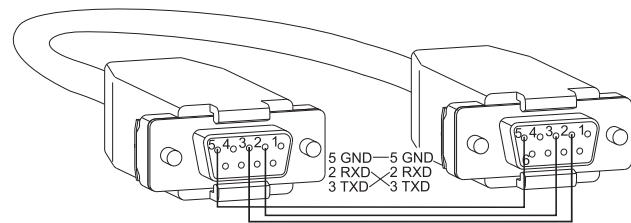
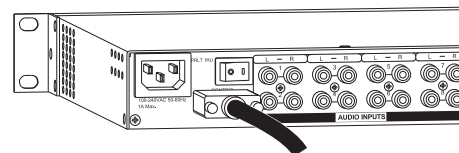

FIG. 3 RS-232 null modem cable pin diagram, no hardware flow control
FIG. 4 Plug in null modem serial cable
The Precis DSP can be controlled with APGraphic EQ or with another type of external control device/system attached to the serial port. Use the pinout in FIG. 3 when connecting the PC (or other serial controller) to the Precis DSP serial port.
1. Plug a null modem serial cable that matches the pin diagram in FIG. 3 into the CONTROL (RS-232 / DB-9) port on the enclosure (FIG. 4).
3. Open the serial communication software and set the port settings to match the settings in the table in FIG. 4. The settings *must* match.